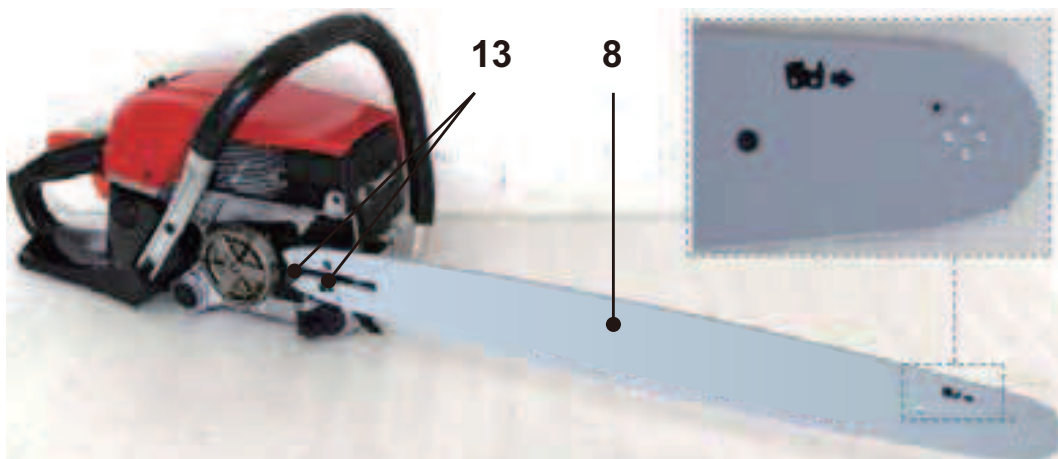

Fig. 2
4. Place the slot in the guide bar **(8)** over the bolts **(13)**. Ensure to fit the guide bar with the saw chain 'cutter' symbol at the top of the bar (Fig. 2).